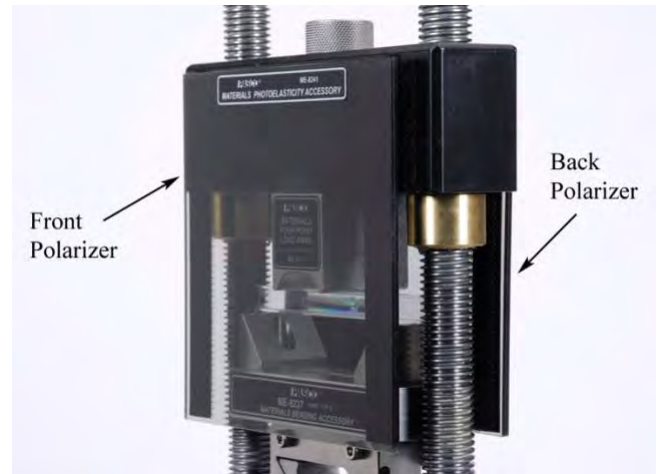

Figure 3: Crossed Polarizers
- The two polarizing sheets Velcro® directly onto the cross-head, as shown in Figure 3. Note that the orientation of the Velcro is such that the two polarizers are crossed.